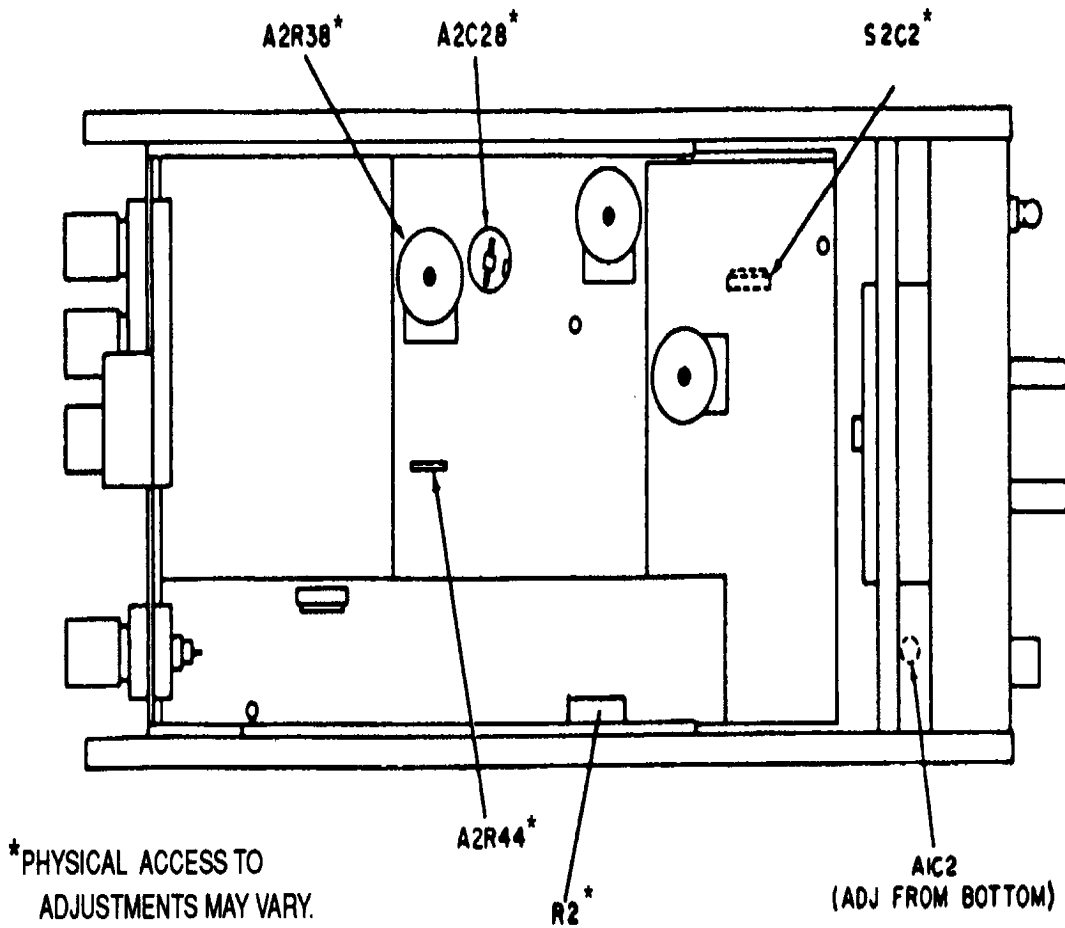

Figure 1. Test instrument (top view) - adjustment locations.
(1) Connect calibrator **OUTPUT** terminals to TI **INPUT** terminal and digital multimeter **INPUT** to TI rear panel **DC OUTPUT** terminals.
(2) Set **RANGE** switch to **.01 VOLTS** and set calibrator for a 10 mV, 1.0 kHz output. If digital multimeter does not indicate between .9950 and 1.0050 V dc, perform **b** below.
**b. Adjustments.** Adjust R2 (fig. 1) for a 1.0000 V indication on digital multimeter (R).